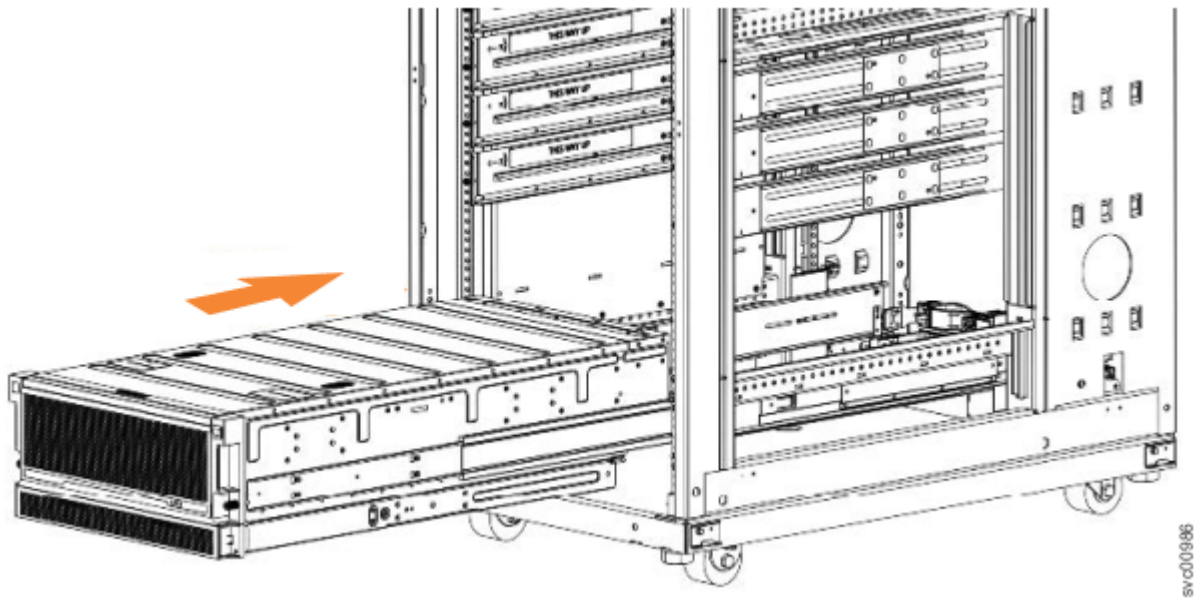

Figure 46. Example installation of the enclosure in the rack
- Install the expansion enclosure in the lowest position in the rack. Figure 46 on page 50 shows an example.